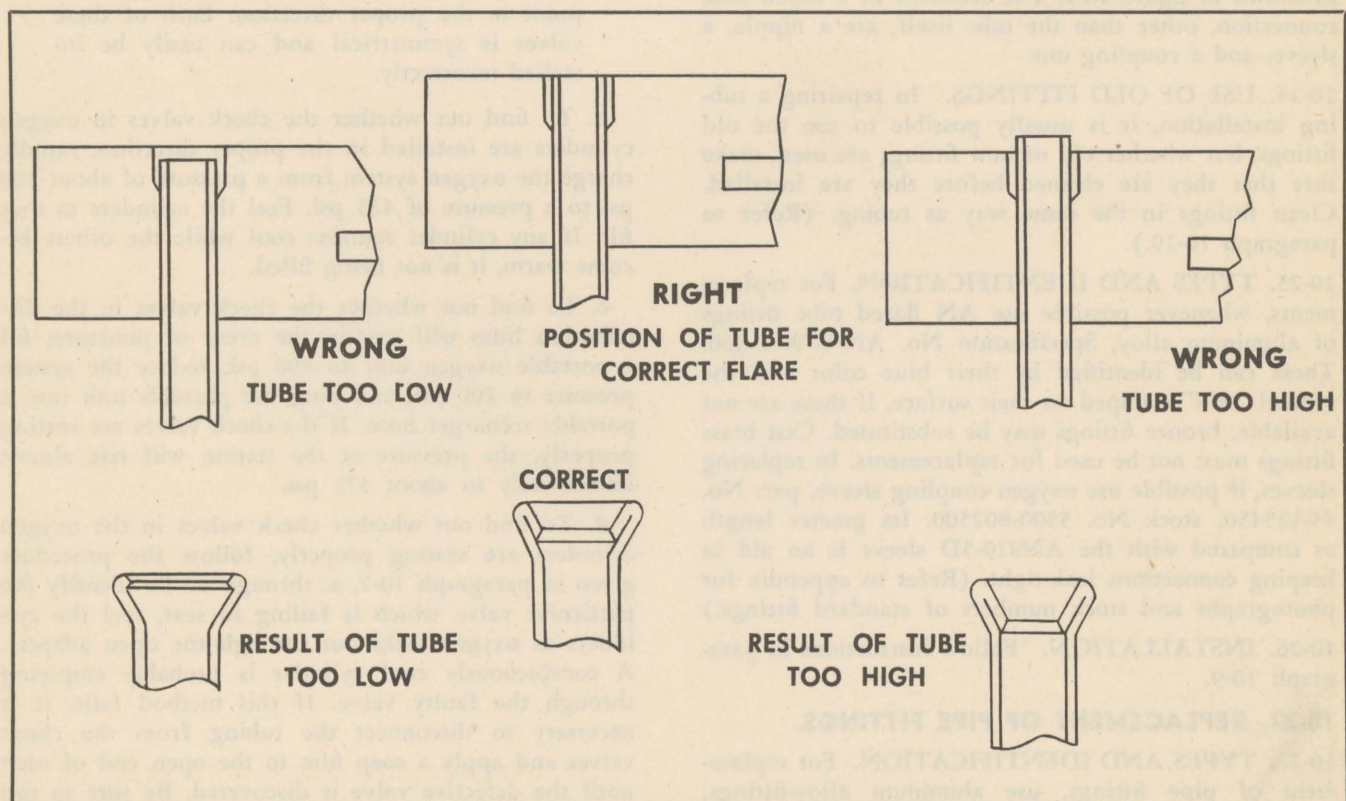

Figure 10-8. Tube Positions and Resulting Flares: a. Good Flare, b. Short Flare, c. Long Flare
It is extremely important that the end of the tube be clamped flush with top of the blocks. Should it be below the surface (figure 10-8, detail B), the mouth of the flare will not offer sufficient contact surface for the nipple of the fitting. A tube extending above the blocks will produce a flare too long, which will extend into the flow passage, and restrict flow, as shown in figure 10-8, detail C.
a. A short inner flare, caused by the condition shown in figure 10-8, detail B, or by slipping of the tube, should not be used, because of the short bearing surface for the fitting nipple. A long inner flare, caused by the condition shown in figure 10-8, detail C, should not be used, because it would restrict the flow passage. A defective flare of either kind should be cut off and done over.